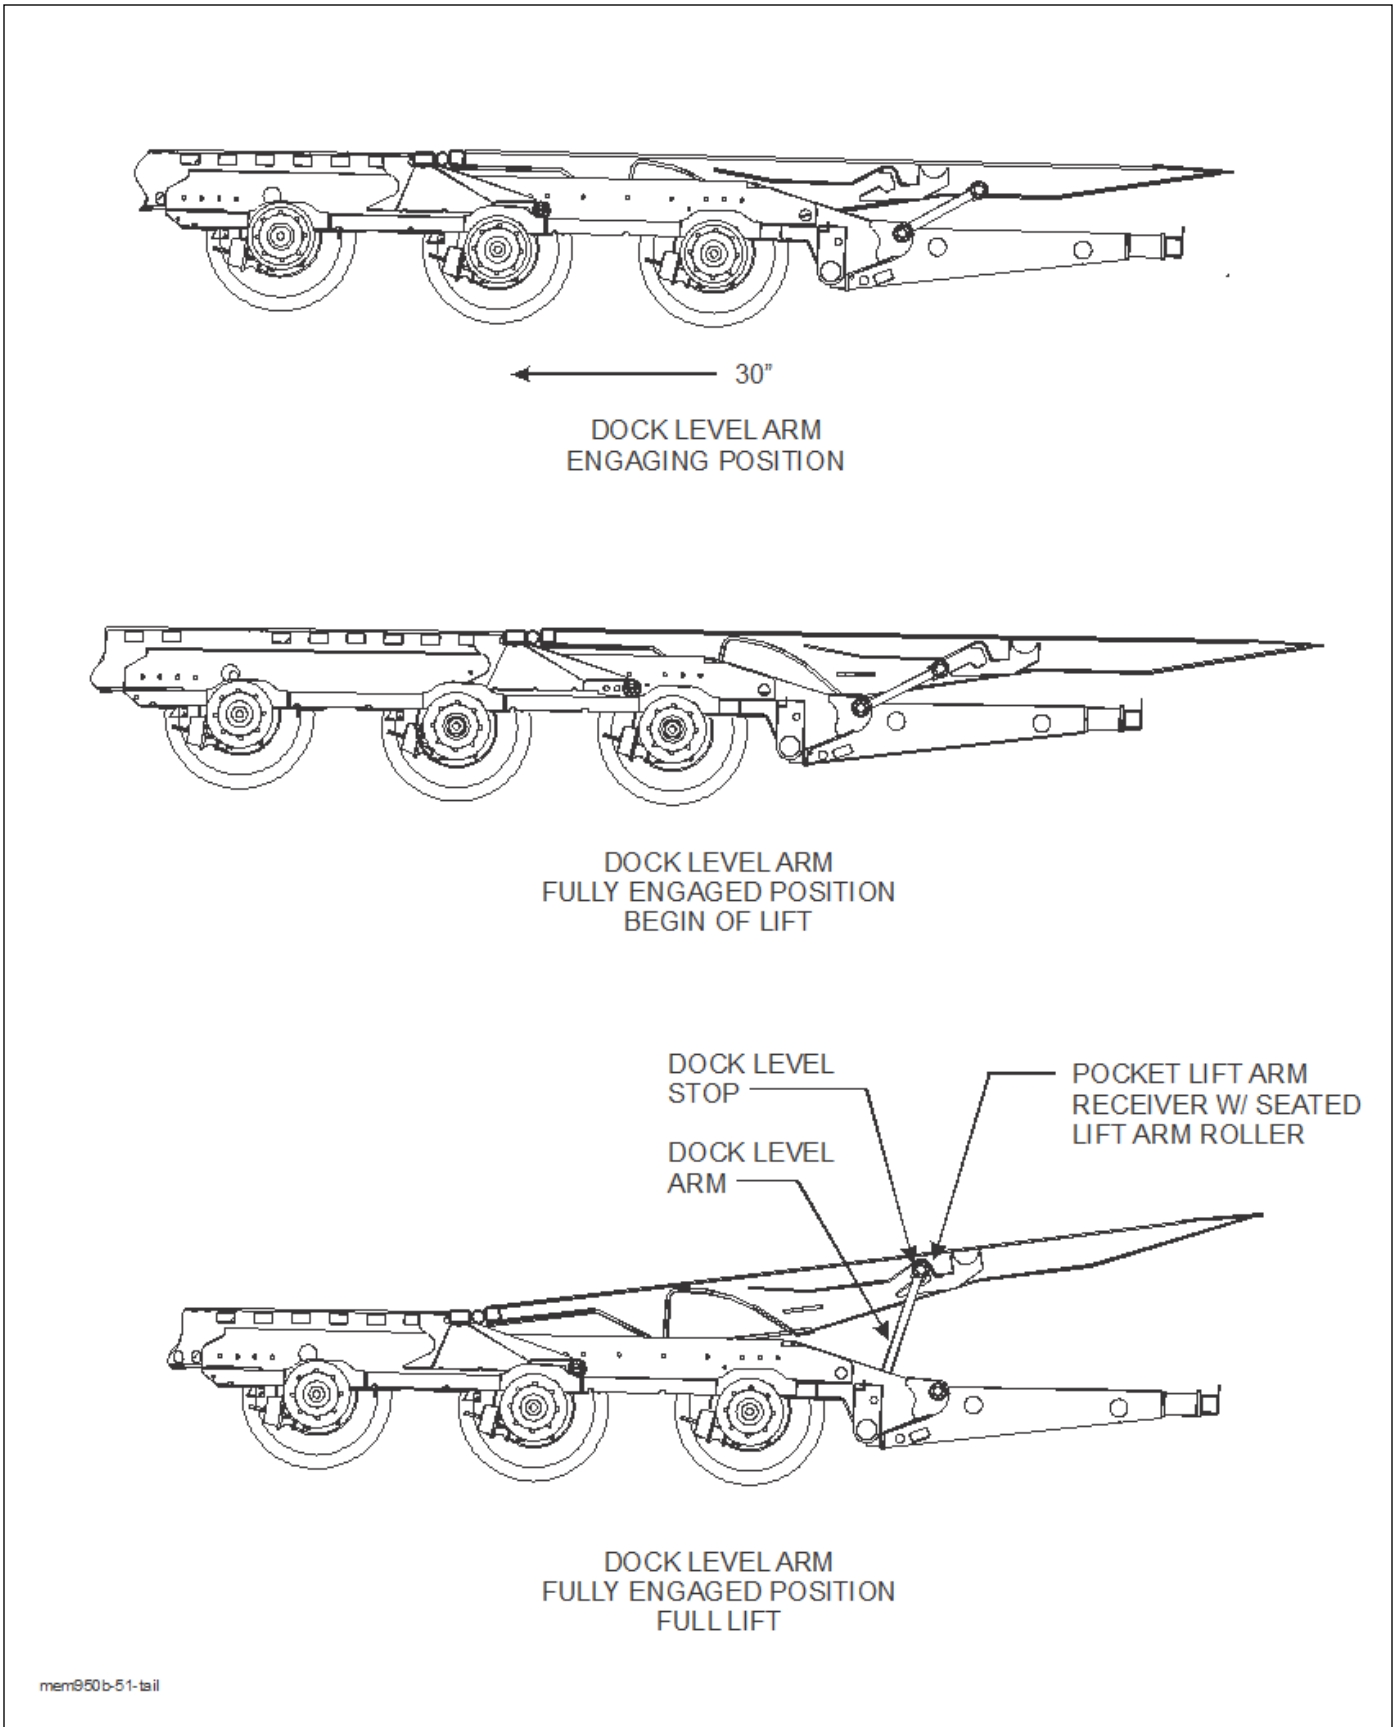

Figure 3-9: Dock Leveler Operation
- Use **TAIL/AXLE CONTROL LEVER** to pull undercarriage forward approximately 30" (See Figure 3-9.)